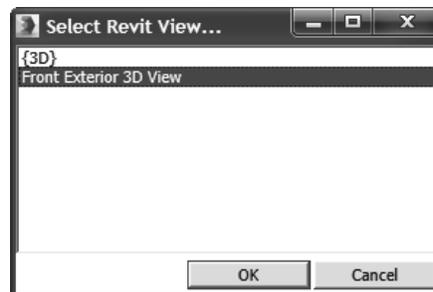

Figure 3–33
4. The Link Revit View dialog box opens indicating the progress of the file as it is loading (It might take a few minutes to load the file). Once loaded, the Select Revit View dialog box opens as shown in Figure 3–33.